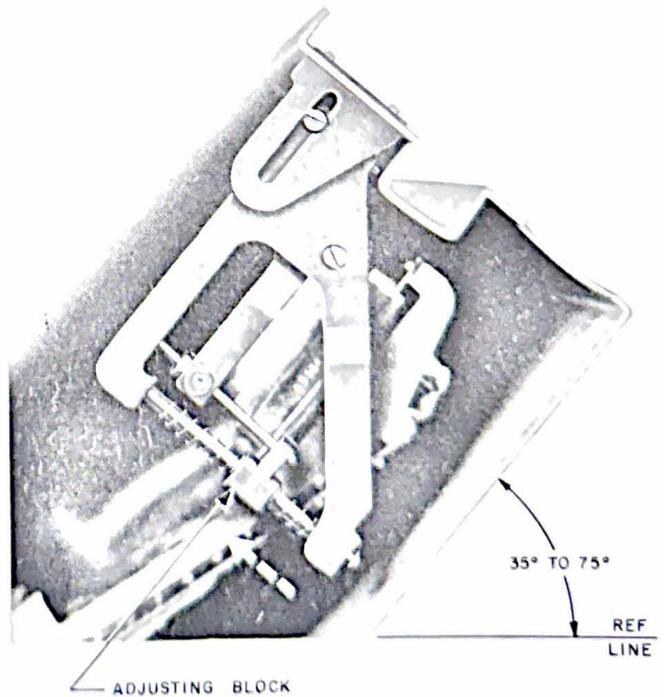

Fig. 9 - Installation at 35 to 75 Degrees
- When the mounting is installed at an angle of 35 to 75 degrees, the weight of the PIVOT BAR must be partially compensated by upward pressure on the adjusting block. Adjust the position of the block to a point where the lower spring holds the arm parallel to the bracket (Fig. 9).